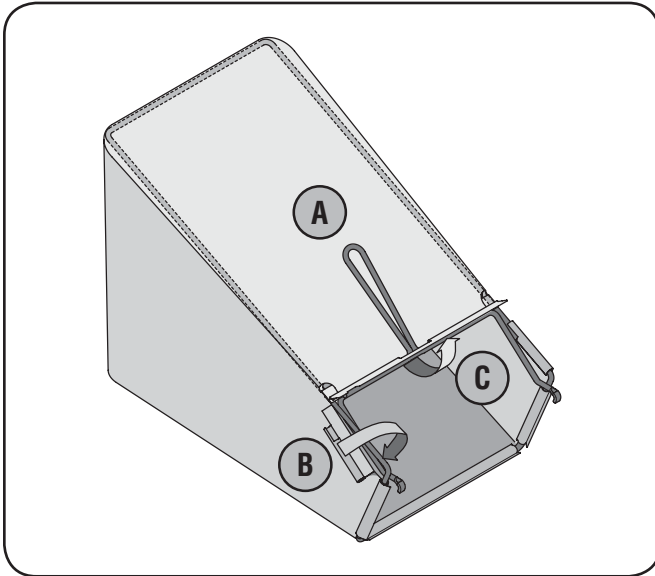

Figure 3-3
- b. Slip plastic channel of grass bag over hooks on the frame. See Fig. 3-3. All the plastic channels except center top of bag attach from outside of bag.